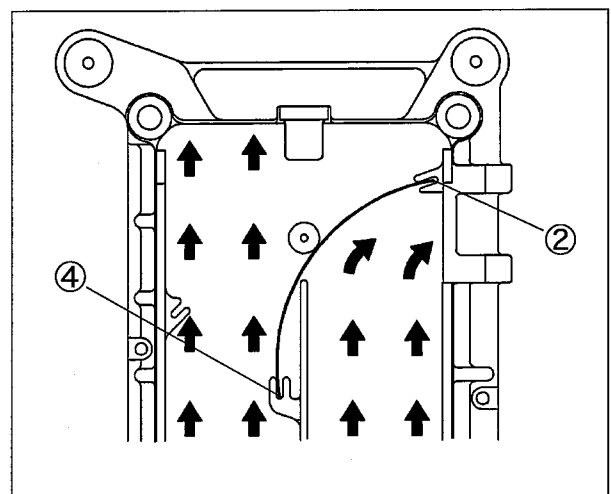

Fig. 76
For high speed and less dust during sewing, insert the air deflector ① into the guides ② and ④. (See Fig. 76)